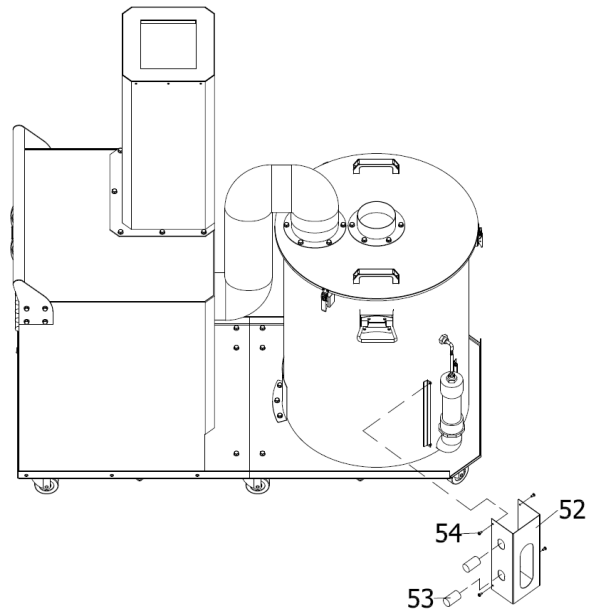

Figure 8-7: Setup Installation Cont'd
16. Place the Indicator Cover (NO. 52) onto the Collecting Drum (NO. 51) and use a Phillips head screwdriver to tighten the Phillips head screws (NO. 54). See Figure 8-7.